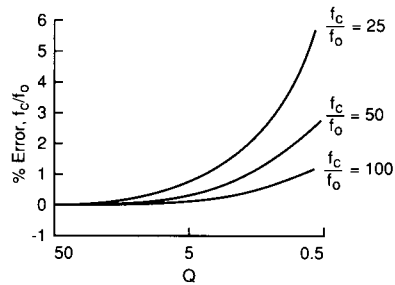

Figure 12a. Typical  $f_o$  Error as a Function of Q
**Second-Order Effects** - Departures from the programmed values of  $f_c/f_0$  and Q are to be expected at low values of Q and  $f_c/f_0$ . Primarily these reflect the differences (mainly the need for compensation for the curved mapping of the  $j\omega$ -axis into the z-domain) between the s-domain used in state-variable filter analysis and the z-domain used to model the sampled-data nature of SCF's. Typical effects of the interdependency of Q and  $f_c/f_0$  are shown in Figure 12a and 12b. Table 5 already includes the necessary correction factors for Q as a function of  $f_c/f_0$ . Neither the table nor the figure include Q and  $f_c/f_0$  error tolerances.